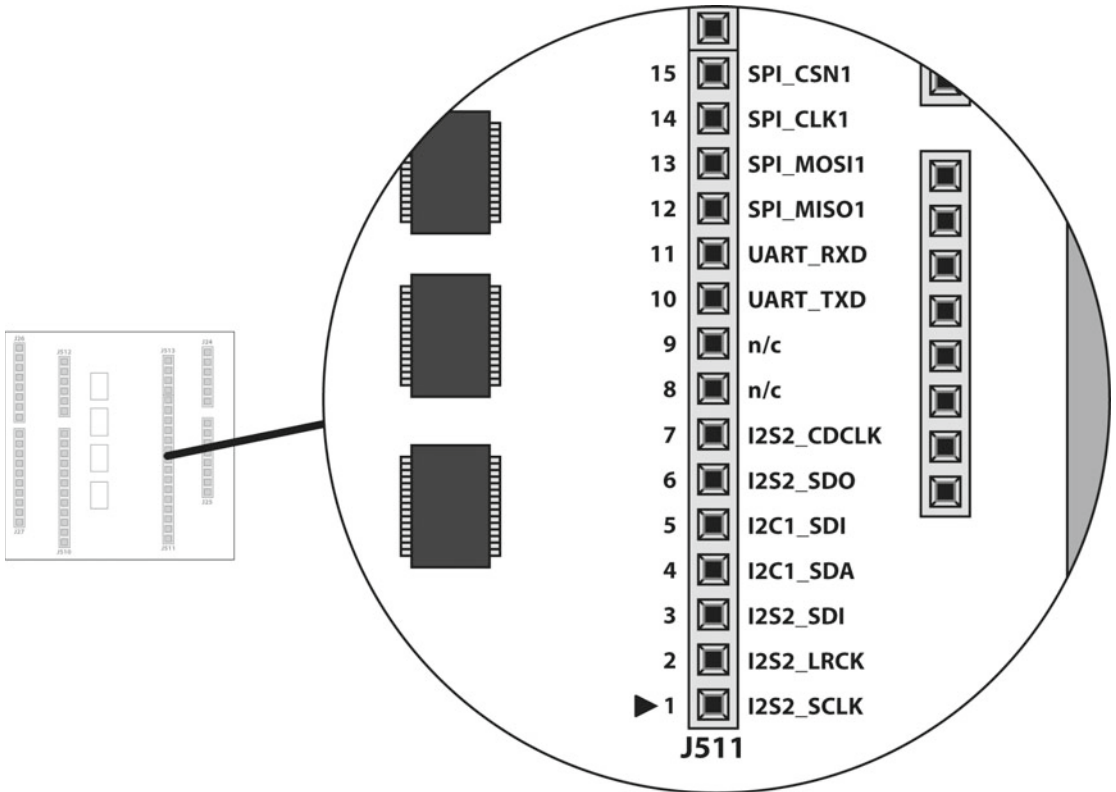

Figure 14-6. Location of J511 header pins
There are a few minor typographical errors on the artwork of the Commercial Beta developer reference boards. They are not of any great consequence and have been corrected on these illustrations. They are also due in part to the placement of some surface mounted components that hide the label text. Figure 14-6 shows the layout of the J511 connector on the developer reference board while Table 14-7 lists the pinouts for it.
- The I2S-2 audio connections on an ARTIK 5 are connected to I2S-0 on an ARTIK 10 according to the circuit schematics for the developer reference boards. All of the photographs currently available show the labeling on the Type 10 developer reference board to be identical to that on the Type 5. Therefore the labels shown in Figure 14-6 and Table 14-7 are still relevant although the internal connections are different.